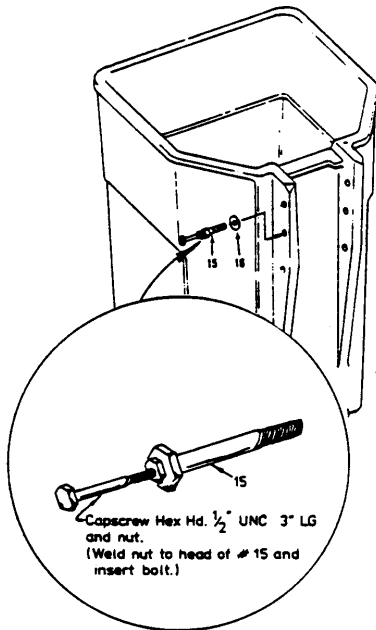
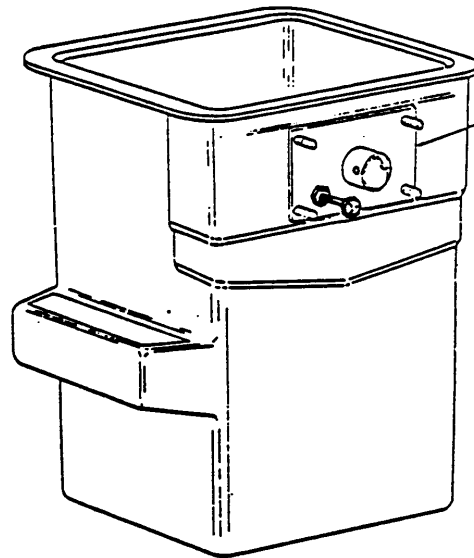

Figure 1 Pitman type buckets
Figure 2
1. A ½” x 3” long cadmium or galvanized plated capscrew is to be located on the aerial device models as shown in the sketches. Tack weld the hexagon nut to the bolt head (Fig. 1) or alternate location shown (Fig. 2). Screw the capscrew into the nut until it bottoms out.